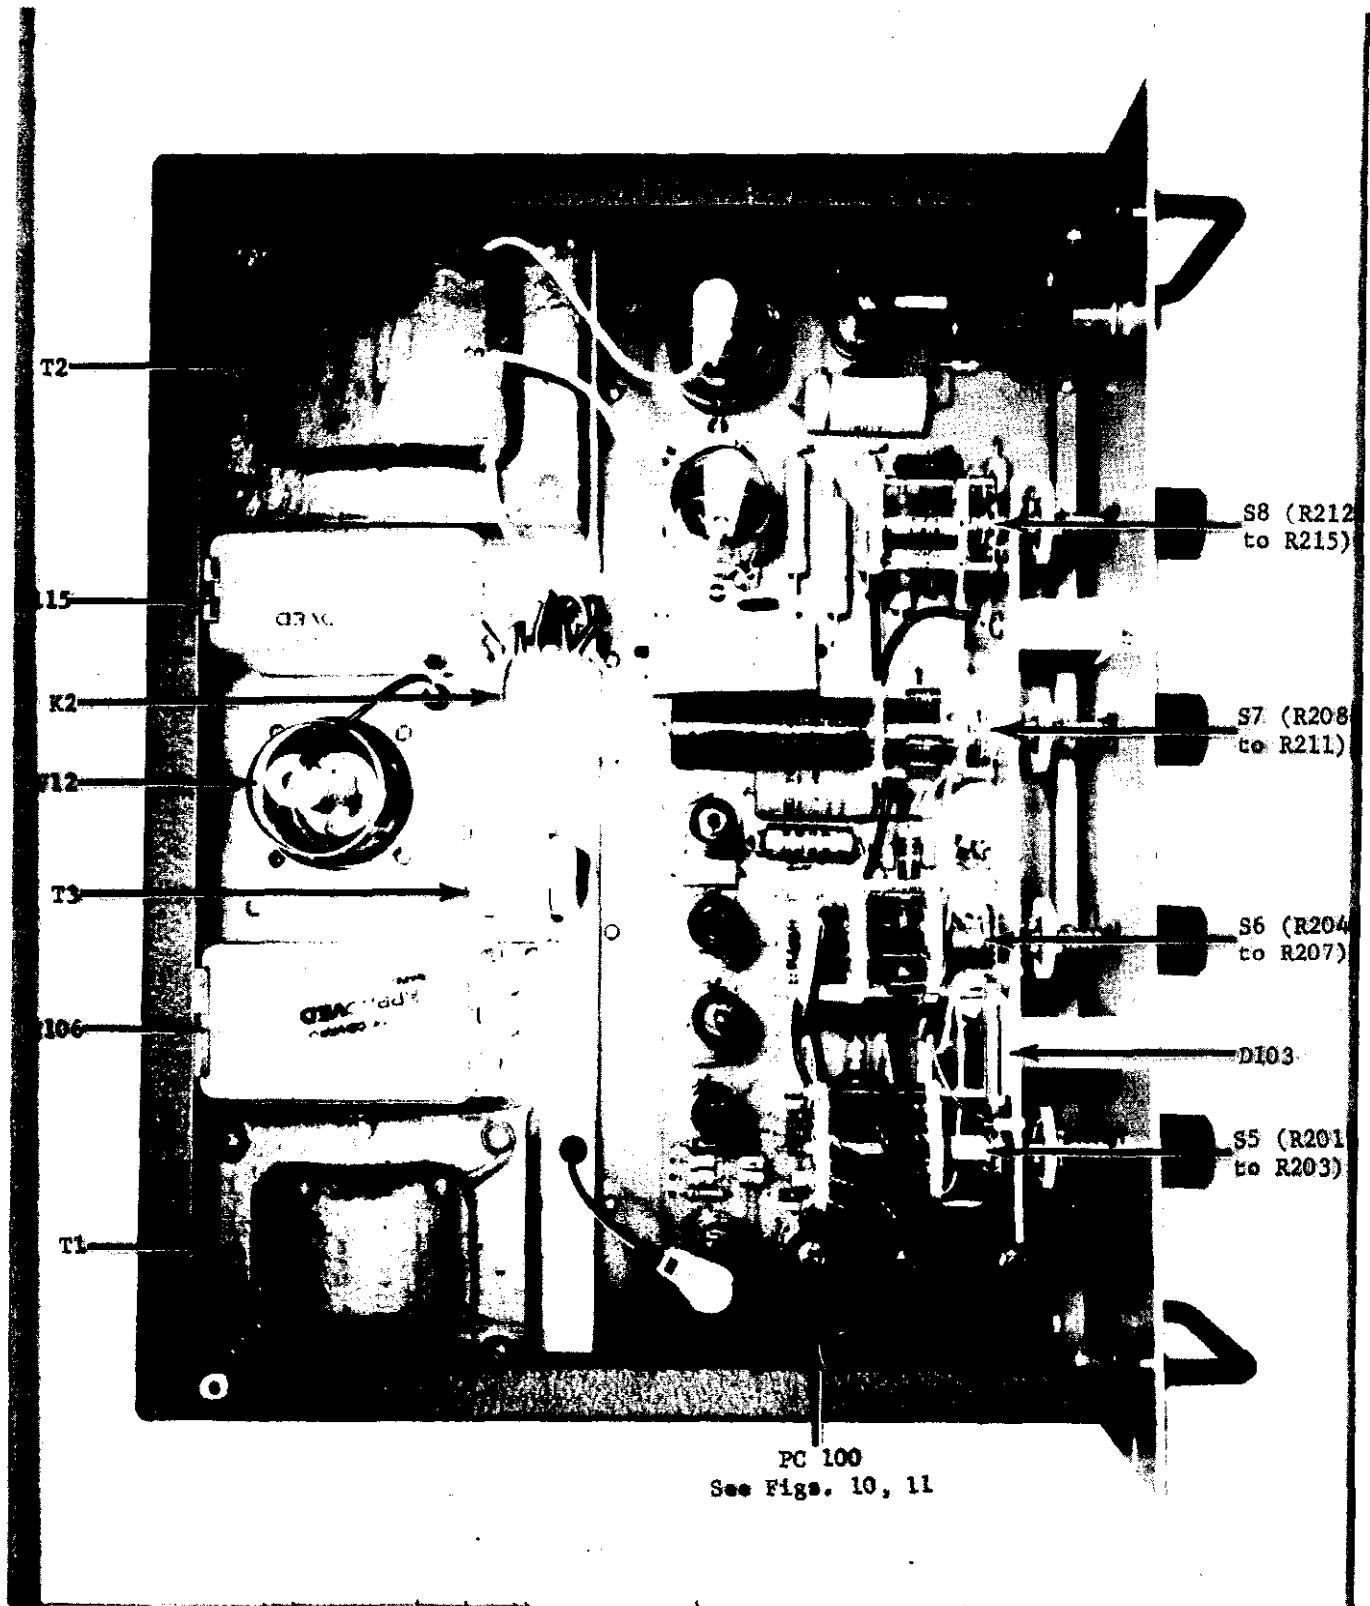
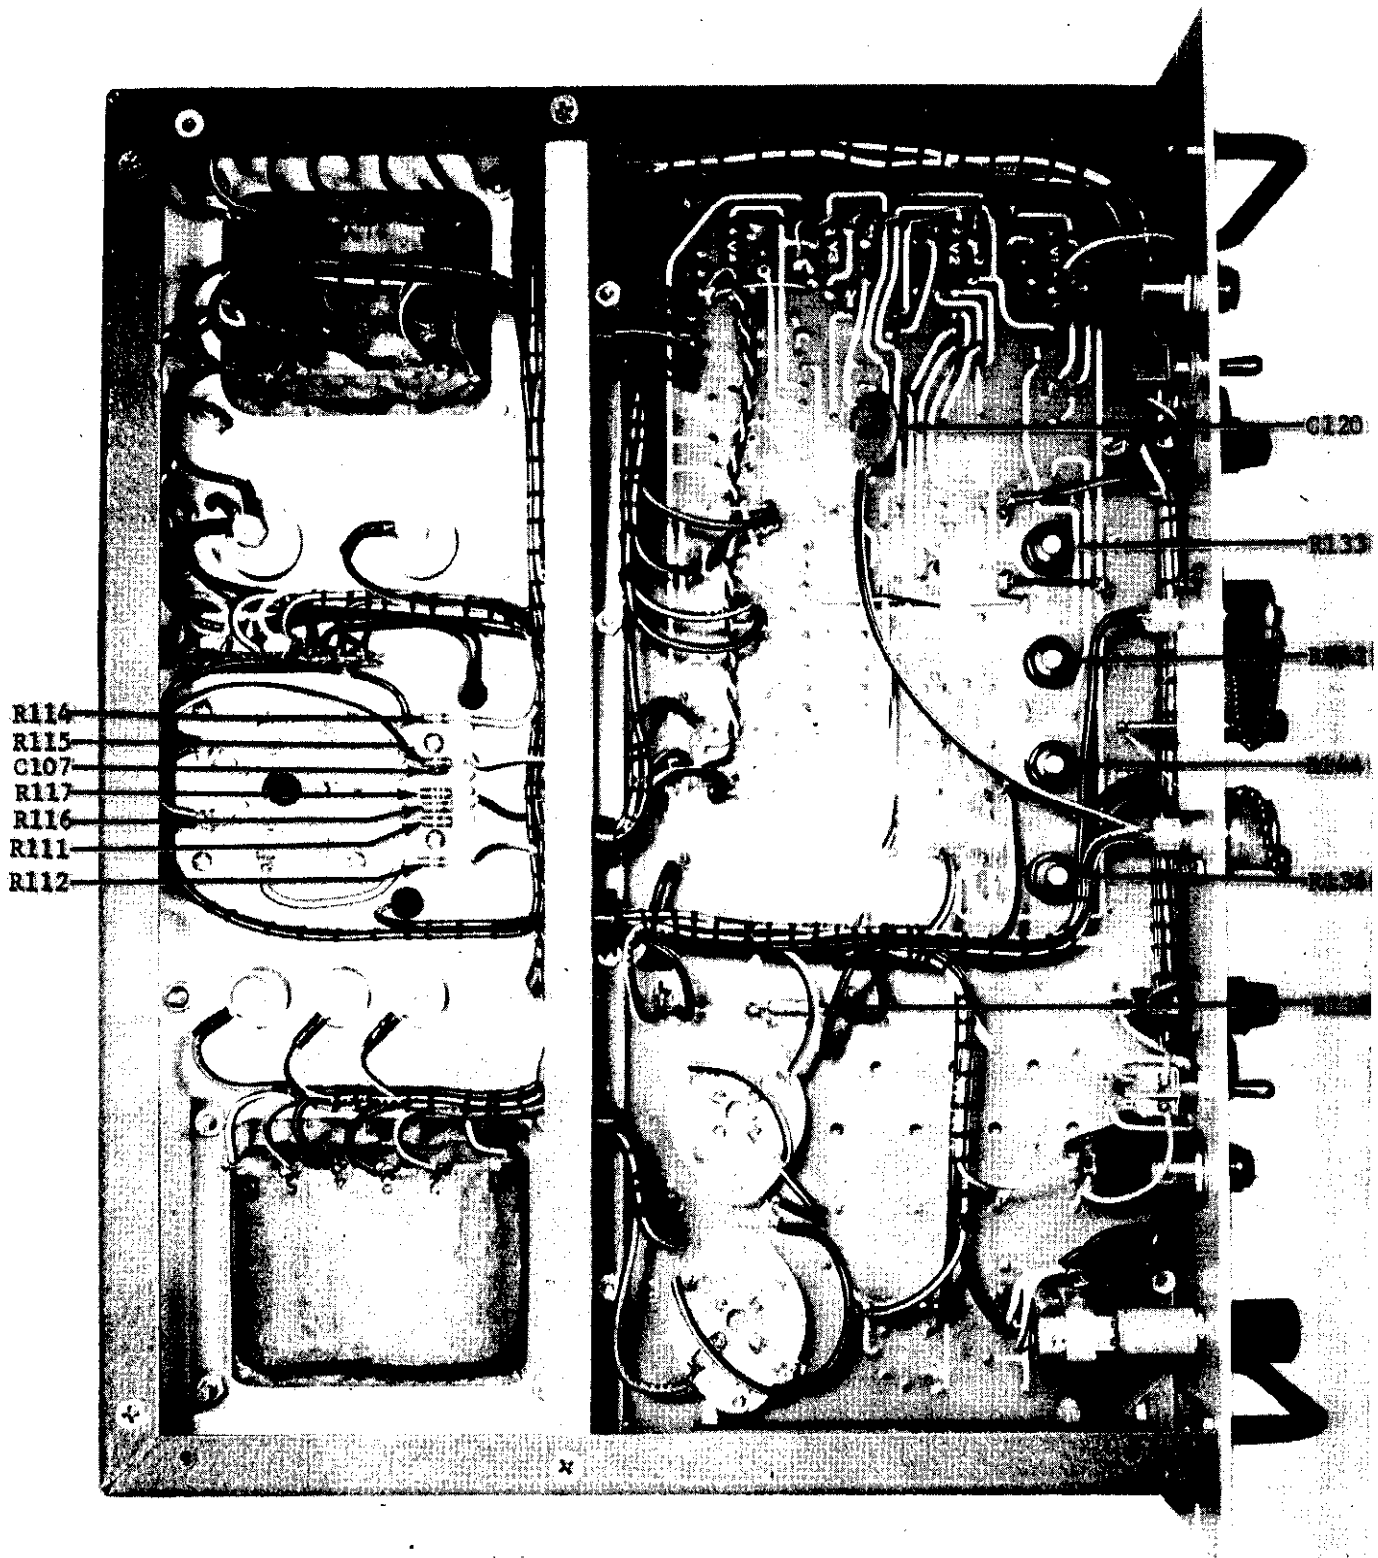
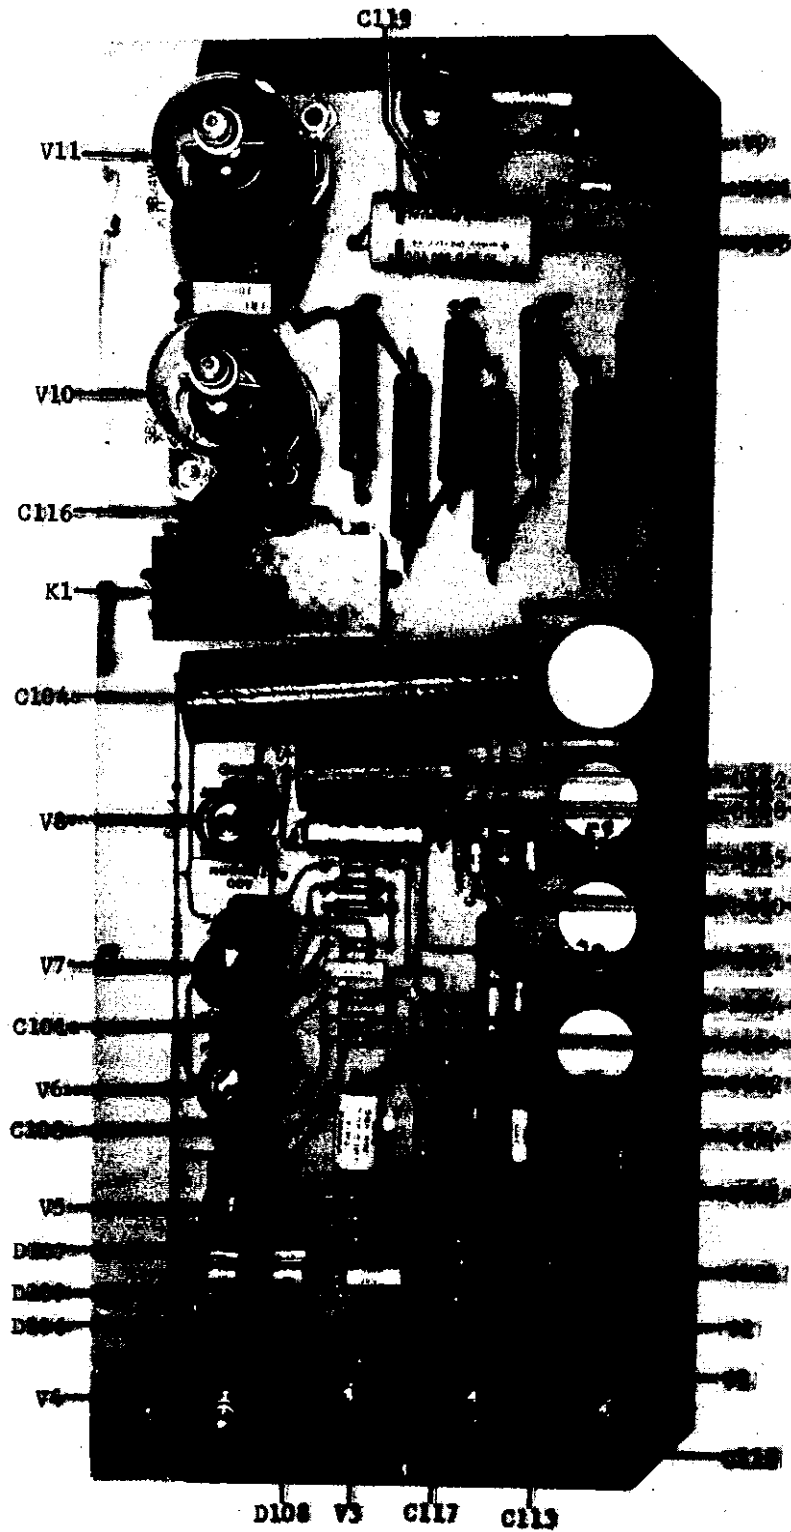
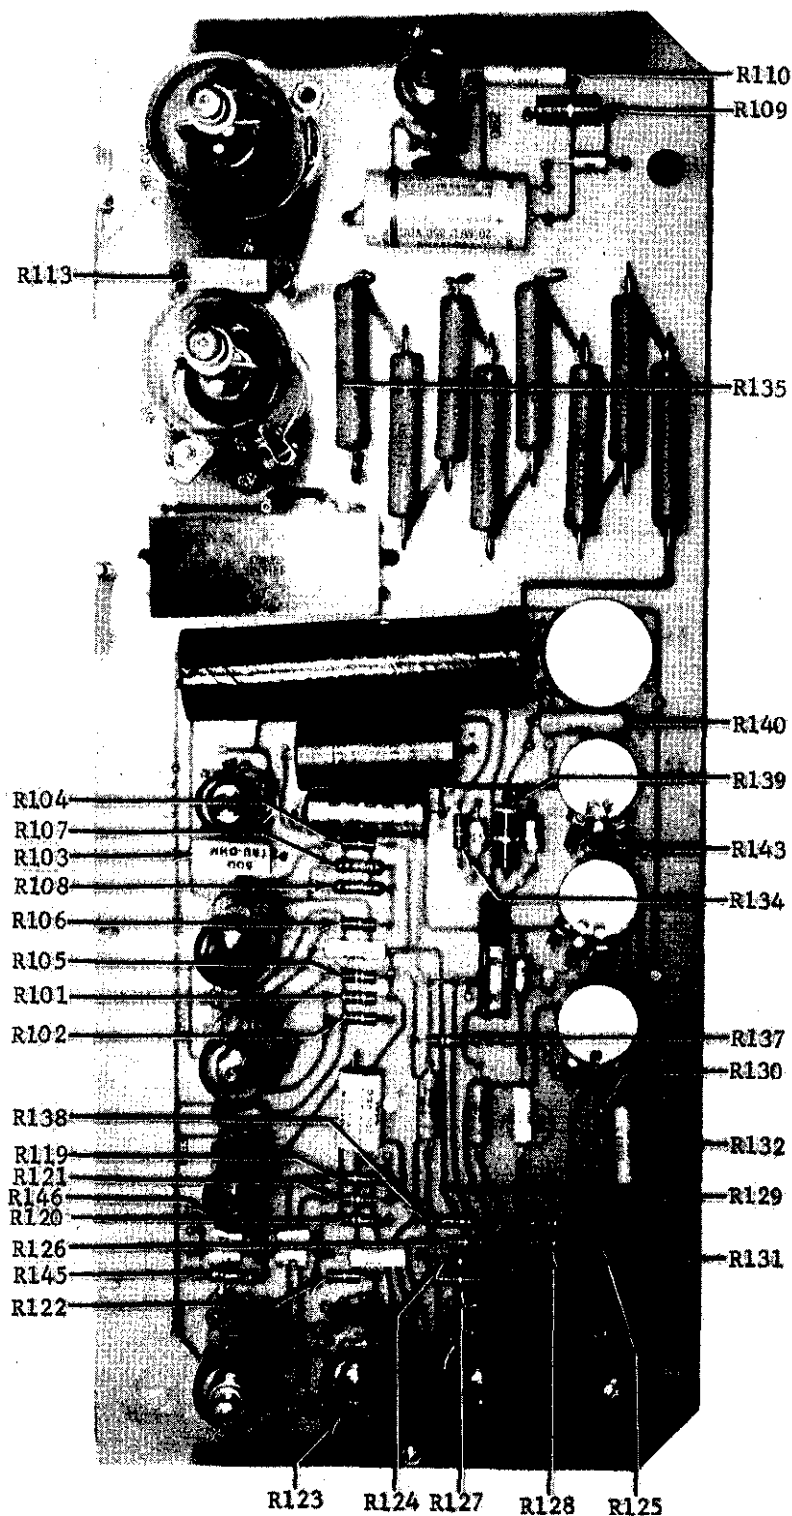

FIGURE 8. Top View of Model 242 Chassis. The illustration shows the location of components and printed circuit. Refer to Figure 9 for a bottom view.
FIGURE 9. Bottom View of Model 242 Chassis. The illustration shows the location of components and internal controls. Refer to Figure 8 for a top view.
FIGURE 10. Tube, Diode, Capacitor and Modulator Locations on Printed Circuit Board PC-100. Resistors are shown in Figure 11.
FIGURE 11. Resistor Locations on Printed Circuit Board PC-100. Other components are shown in Figure 10.
c. If the plate voltage is not correct, check rectifiers V10 and V11, the series resistor R113 (Figure 11), the filter capacitor C106 (Figure 8) and the primary winding of transformer T2 (Figure 8) for 117 volts ac. If no voltage appears on the transformer primary, check the overload relay, K1 (Figure 10), and the control relay, K2 (Figure 8).
e. Incorrect voltage at the cathode indicates tube V12 is faulty or incorrect biasing conditions exist. If the voltage is still not correct after tube V12 is replaced, check tube V4 (Figure 10), the dc amplifier tube V3 (Figure 10), the ac amplifier tube V2 (Figure 10), and the diodes in the demodulating bridge, D106 to D109 (Figure 10).
a. A defective capacitor C115 (Figure 8) will cause the output to be unstable.
b. Although it normally does not need replacement, check the zener diode D103 (Figure 8). Since adjusting the diode circuit requires recalibrating the entire instrument, check the zener diode only after all other possible trouble sources are eliminated.
1. Remove the jumper in series with diode D103 (the jumper is next to R133, Figure 9).
Connect a 10-ohm, 1/2% resistor (Keithley Part No. R12-10) at this point. Read the voltage across the resistor with the Model 153. Adjust the ZENER ADJ potentiometer, R133 (Figure 9), until the microvoltmeter reads the product of the rated zener current (7.5 milliamperes) times the resistance (10 ohms) or 75 millivolts $\pm 1\%$.
2. The voltage across the zener diode should now be between 8.55 and 9.45 volts. If this voltage is not correct, check the regulator tube V1 (Figure 10), resistor R132 (Figure 11), the ZENER ADJ potentiometer R133 and the zener diode D103.
b. Turn the Voltage Supply on; monitor the output on the oscilloscope. The oscilloscope should show a signal with 2-millivolt rms ripple or less. Adjust the BIAS ADJ potentiometer, R144 (Figure 9), until the minimum ripple appears on the oscilloscope.
c. If the potentiometer does not have sufficient range to lessen the noise, check capacitor C108. If capacitor C108 (Figure 10) is open, it will cause excessive noise. If it is good, observe the output wave. A high level of corona indicates the feedback capacitor C120 (Figure 9) is open or the core of transformer T2 (Figure 8) is grounded.
b. If the overload relay K1 (Figure 10) will not break the circuit when the Voltage Supply becomes overloaded, check filter capacitor C116 (Figure 10) for a short and check the overload relay for proper operation.
c. If the overload relay cuts off the circuit with no overload present, check the coil of K1 (Figure 10) against the rated value printed on it. Also check the shunting resistance R118 (Figure 9) to make sure its value has not changed.
d. If previous checks have not located the source, check capacitor C115 (Figure 8). A leaky or shorted capacitor here will cause troubles similar to those caused by a faulty overload circuit.
b. Turn on the Model 242. Set the output to 3500 volts; make sure the TRIM Control is off before making the calibration. The voltmeter should read 3500 volts ± 3.5 volts. If necessary, adjust the HV ADJ potentiometer, R136 (Figure 9), until the output reads 3500 volts on the Model 660A Voltmeter.
c. Set the Voltage Switches to 300 volts. The voltmeter should read 300 volts ± 0.3 volt. If necessary, adjust the LV ADJ potentiometer, R142 (Figure 9), until the output reads 300 volts on the Model 660A Voltmeter.